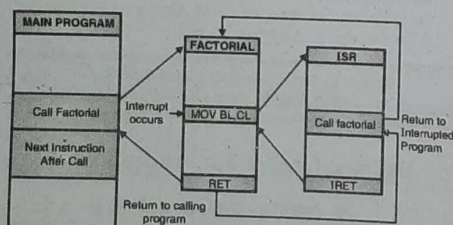

Fig. 5.2.1 : Re-entrant procedure flow diagram
- A special return instruction at the end of the ISR returns the execution to the factorial procedure where it was executing when the interrupt occurred as shown in Fig. 5.2.1.